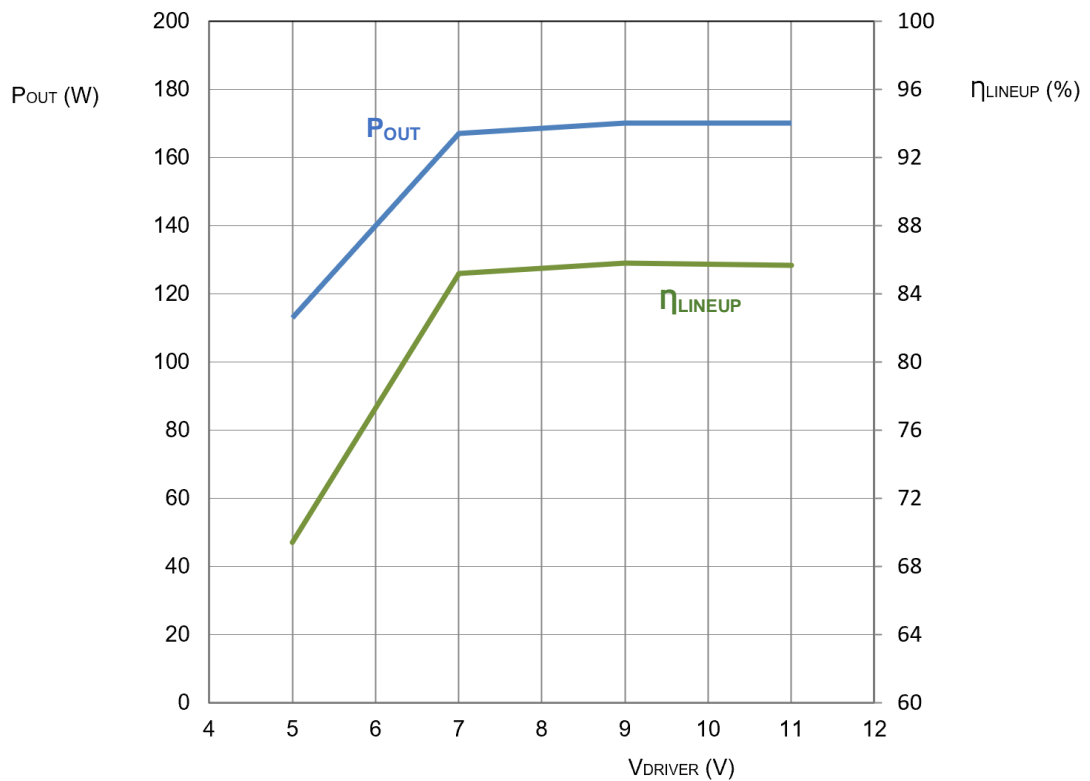

Figure 4 Output power and lineup efficiency as a function of voltage supply of driver section; F = 40MHz; V_{DD} = 60V
- Figure 4 Output power and lineup efficiency as a function of voltage supply of driver section 8